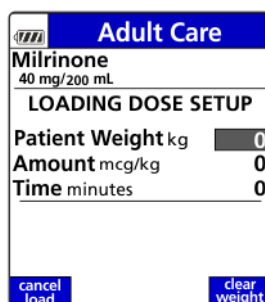

Figure 62. Loading Dose Setup Screen.
- If the **yes** soft key is pressed, the Loading Dose Setup screen is displayed. See Figure 62.